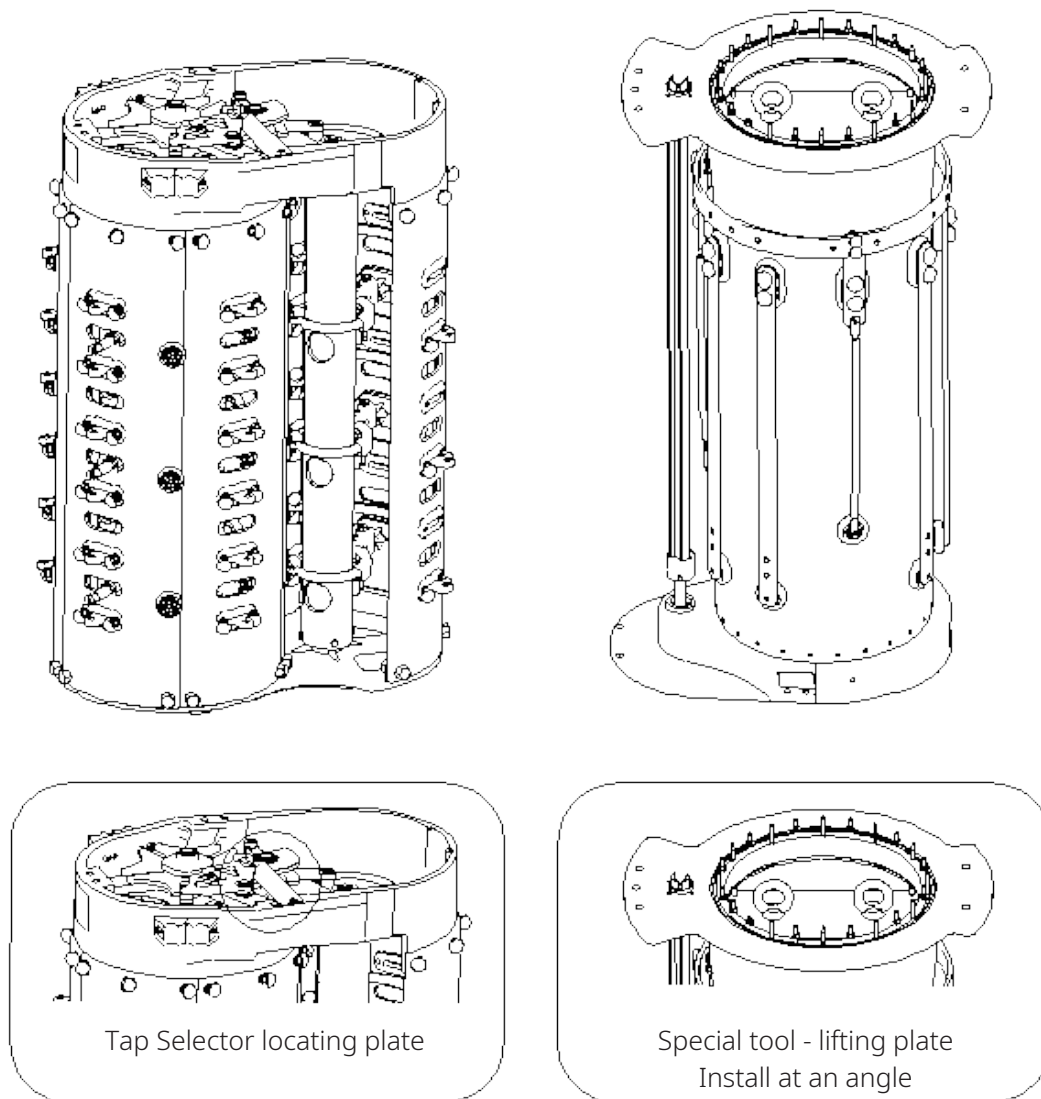

Figure 5-8 Tap Selector Locating Plate and Lifting Ring for the Oil Compartment
2. Remove the Tap Selector locating plate (see Figure 5-8).
3. Use the special tool to lift the Diverter Switch oil compartment (see Figure 5-8).